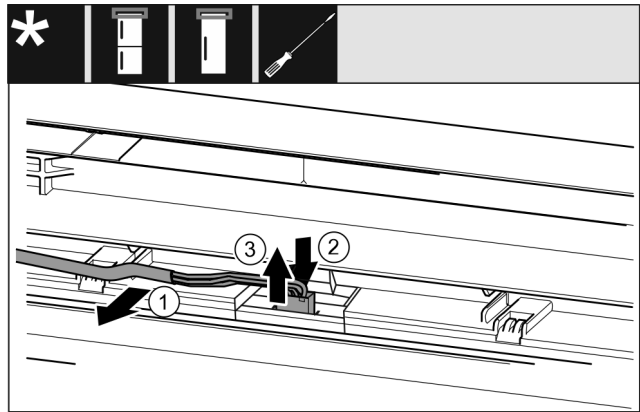

Fig. 22 Fridge/freezer combinations / freezers / refrigerators
- Release the cable Fig. 22 (1) from the guide in the door carefully.\*
- Push the tab Fig. 22 (2) behind the plug backwards.\*
- Pull the plug Fig. 22 (3) out upwards carefully.\*